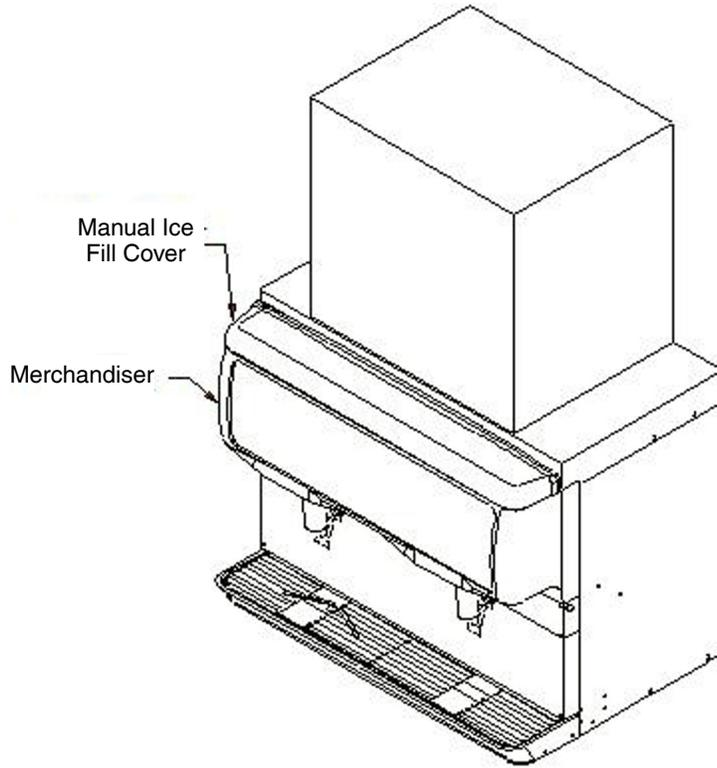

Figure 2.
4. Install the ice fill cover on the dispenser. (See Figure 2.)